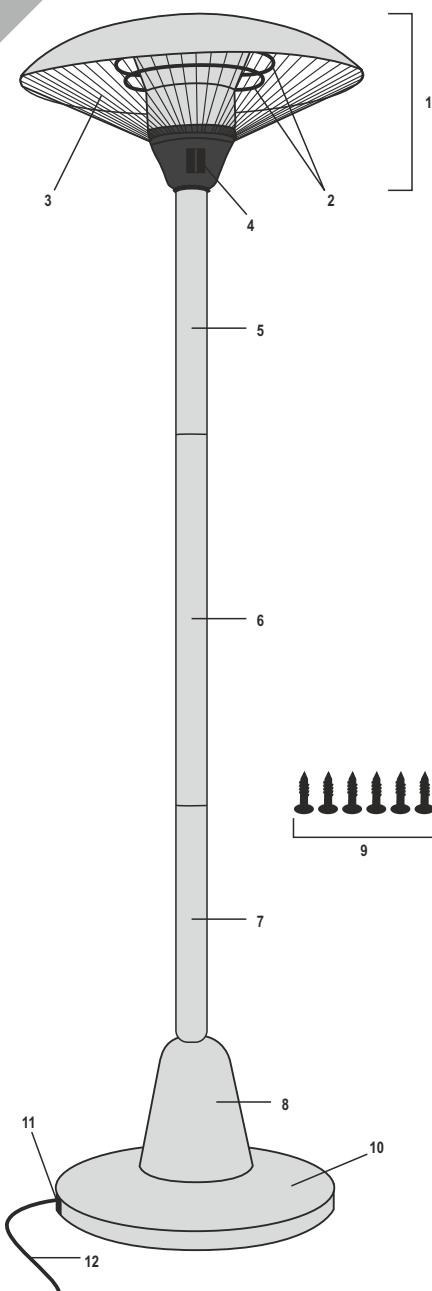

figure 2 • Abbildung 2 • 2. ábra • 2. obraz • figura 2. • 2. skica • 2. skica • 2. obrázek • 1. slika
1. Confirm that the appliance has not been damaged in transit. **2.** Never locate the unit directly in corners and observe the minimum mounting distances indicated in Figure 2. Always observe the health and safety regulations valid in the country of use. **3.** The appliance must not be used with programmable timers, timer switches or stand-alone remote controlled systems that can automatically turn the unit on because any covering or improper location of the unit can cause a fire hazard. **4.** The appliance should be used as intended for heating air, not for general heating purposes. **5.** The stream of hot air should not be aimed directly at curtains or other flammable materials. **6.** During operation and immediately after switching off (within 30 minutes) the protective grille and the upper metal parts of the appliance will be hot! **7.** Do not locate near flammable materials. (min. 150 cm) **8.** Do not use in locations where flammable vapors or explosive dust may be present. Do not use near flammable materials or in potentially explosive atmospheres. **9.** Warning: The appliance contains no thermostat that senses the ambient temperature of the room. Do not use in confined spaces if there are persons present who are not capable of leaving the premises on their own accord unless permanent supervision is assured. **10.** The protective grille on the appliance is intended to prevent direct contact with the heating elements. The appliance may not be operated without the protective grille in place. **11.** The protective grill does not provide full protection in the case of small children and elderly or incapacitated persons! **12.** Operate only under constant supervision. **13.** Do not operate unattended in the presence of children. **14.** It is PROHIBITED to use the unit in the close proximity of bathtubs, basins, showers, swimming pools or saunas. **15.** It is STRICTLY PROHIBITED to install or use the appliance in zones 0 and 1 of premises containing bathtubs or showers (see Figure 3)! **16.** All circuits in premises containing bathtubs or showers shall be protected with one or more RCDs with a rated triggering current of up to 30 mA! **17.** Observe the local or special national regulations when installing an appliance in premises containing bathtubs or showers. **18.** It is prohibited to use the appliance in motor vehicles or in confined spaces such as elevators. **19.** When planning not to use the unit for an extended period of time, switch it off then remove the power plug from the outlet. Store the appliance in a cool, dry place. **20.** Always remove power from the heater before relocating it. **21.** Do not locate the appliance directly below a wall outlet. **22.** If any irregular operation is detected (e.g., unusual noise or burnt odor from unit), immediately switch it off and remove the power plug. **23.** Make sure that no foreign objects or liquid can enter the unit through the openings. **24.** Protect from dust, humidity, sunlight and direct heat radiation. **25.** Power off the unit by unplugging it from the electric outlet prior to cleaning. **26.** Do not touch the unit or the power cable with wet hands. **27.** The appliance may only be connected to properly grounded 230 V~/50 Hz electric wall outlets. **28.** Unwind the power cable completely. **29.** Do not use extension cords or power strips to connect the unit. **30.** Do not lead the power cable on top of the appliance or near the heat radiating surface. **31.** The appliance should be located so as to allow easy access and removal of the power plug. **32.** The unit is intended for household use. No industrial use is permitted.
1. Bitte vergewissern, dass das Gerät beim Transport nicht beschädigt wurde! **2.** Das Gerät nicht direkt in die Ecke stellen und beim Montieren die Abstände gemäß Abbildung 2 einhalten! Die gültigen Sicherheitsvorschriften des jeweiligen Landes berücksichtigen! **3.** Das Gerät darf nicht mit einem Programmschalter, Zeitschalter oder mit separaten ferngesteuerten Systemen, etc. zusammen benutzt werden, die das Gerät selbstständig einschalten können, da durch eventuelles Abdecken, bzw. falsches Aufstellen des Gerätes Brandgefahr entstehen kann. **4.** Das Gerät darf nur bestimmungsgemäß, für die Erwärmung der Luft und nicht für allgemeine Erwärmungszwecke verwendet werden. **5.** Die ausströmende warme Luft sollte nicht direkt auf Vorhänge oder sonstige brennbare Materialien gerichtet sein! **6.** Beim Betrieb und unmittelbar nach dem Ausschalten (innerhalb von 30 Minuten) sind der Schutzbretter, sowie das obere Metallteil des Gerätes heiß! **7.** Nicht in der Nähe von brennbaren Materialien aufstellen! (mind. 150 cm) **8.** Es ist verboten, das Gerät in Räumen zu benutzen, wo brennbare Dämpfe oder explosiver Staub freigesetzt werden können! Nicht in feuer- und explosionsgefährdeten Bereichen benutzen! **9.** Achtung! Dieses Gerät verfügt über keinen Thermostat, der die Raumtemperatur feststellt. Nicht in kleinen Räumen verwenden, wenn sich dort Personen aufhalten, die nicht imstande sind, den Raum allein zu verlassen, ausgenommen den Fall, dass eine ständige Aufsicht gewährleistet ist. **10.** Der Schutzbretter dieses Gerätes ist dafür vorgesehen, die direkte Berührung der Heizeinsätze zu verhindern. Das Gerät darf nicht ohne den richtig platzierten Schutzbretter betrieben werden! **11.** Der Schutzbretter bietet für Kleinkinder, sowie für alte oder kranke Menschen keinen vollständigen Schutz! **12.** Nur unter ständiger Aufsicht betreiben! **13.** Es ist verboten, das Gerät in der Nähe von Kindern unbeaufsichtigt zu betreiben! **14.** A Es ist VERBOTEN das Gerät in unmittelbare Nähe von Badewanne, Dusche, Schwimmbecken oder Sauna zu nutzen! **15.** Es ist STRENG VERBOTEN das Gerät in Zonen 0 und 1 von Räumen (siehe Abb. 3), die Badewanne oder Dusche enthalten in Betrieb zu nehmen und zu nutzen! **16.** In einem Raum, der Badewanne oder Dusche enthält, sind jeder Stromkreis durch einen oder mehreren Schutzschalter (RCD) mit Nennauslösestrom von max. 30 mA zu schützen! **17.** Bei Inbetriebnahme eines Geräts in Räumen, die Badewanne oder Dusche enthalten, sind die lokale und landesspezifische Bedingungen zu berücksichtigen. **18.** Es ist verboten, das Gerät in Fahrzeugen oder in engen ($< 5 \text{ m}^2$), geschlossenen Räumen (z.B. Fahrstuhl) zu benutzen! **19.** Wenn das Gerät für längere Zeit nicht benutzt wird, ausschalten und den Netzstecker ziehen! Das Gerät an einem trockenen und kühlen Ort lagern! **20.** Den Heizkörper vor dem Verschieben immer vom Stromnetz trennen! **21.** Es ist verboten, das Gerät direkt unter einer Steckdose zu montieren! **22.** Wenn Sie etwas Unregelmäßiges bemerken (z.B. ein Geräusch aus dem Gerät hören oder Angebranntes riechen), das Gerät sofort ausschalten und vom Stromnetz trennen! **23.** Bitte darauf achten, dass keinerlei Gegenstände oder Flüssigkeiten durch die Öffnungen ins Innere des Gerätes gelangen können. **24.** Vor Staub, Wasserdampf, direkter Sonneneinstrahlung und Hitze schützen!